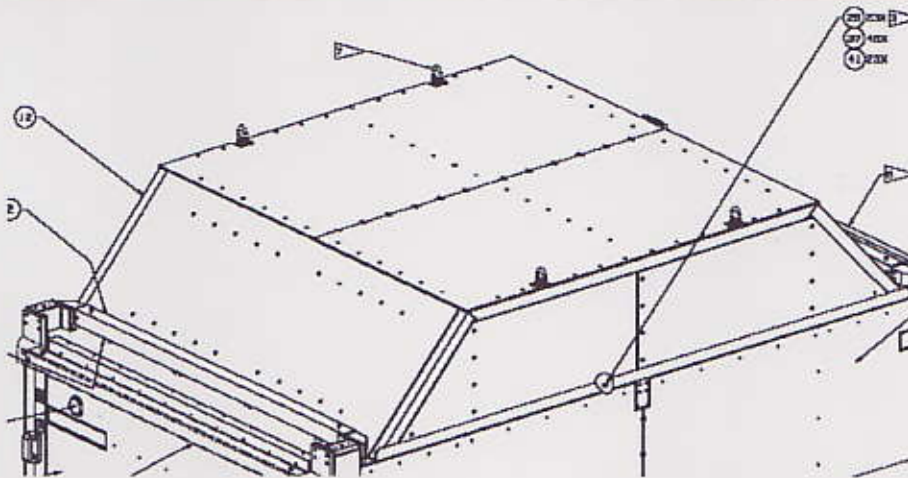

Figure 5
6. For the Cover Assembly, SEG38117057-301, item 12 in Figure 5, remove the bolts, NAS1958C70, item 28, countersink washers, NAS1587-8C, item 37, and self-locking nuts, NAS1291C8M, item 41. Place all fasteners in the marked bag for identification.
7. Remove the cover assembly, item 12 in Figure 5, using crane and straps that connect to the four swivel hoists rings on the cover.